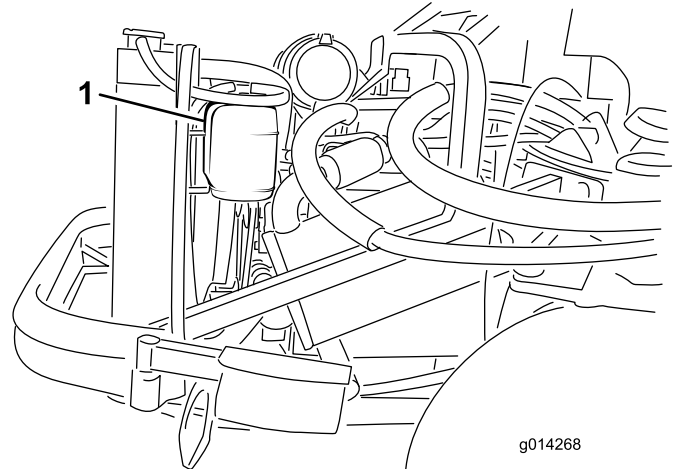

Figure 59
1. Check the level of the coolant in the expansion tank (Figure 59). The coolant level should be between the marks on the side of the tank.